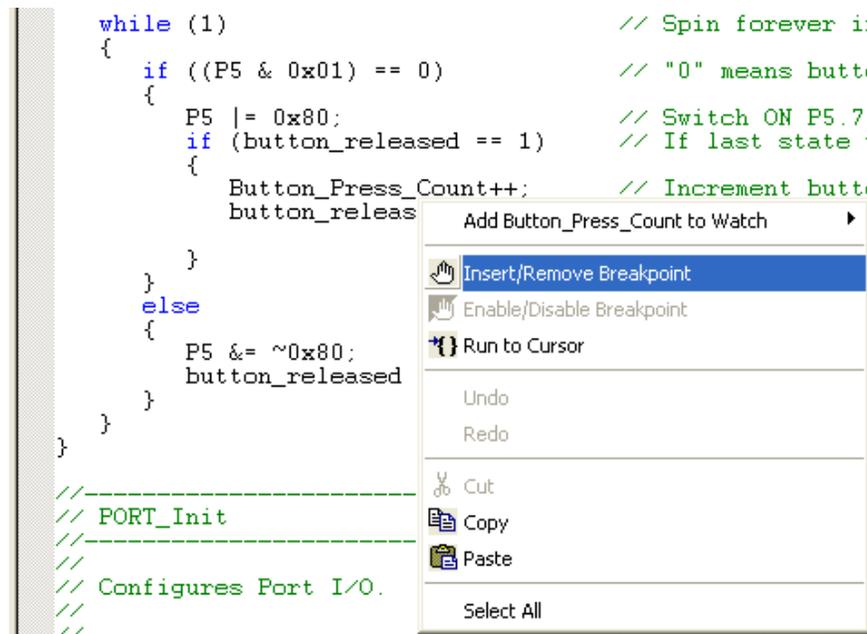
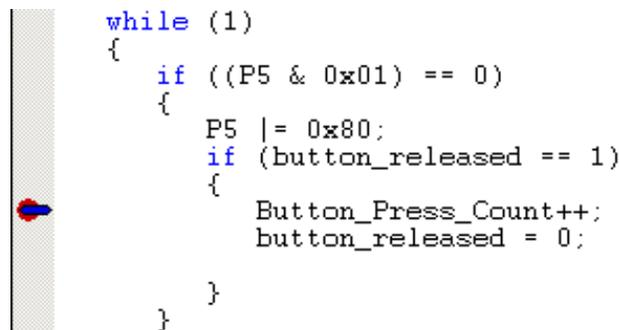

Figure 14. Inserting Breakpoint
Figure 15. Execution Stopped at Breakpoint
2. Scroll to the **main** function (line 69) and right-click on the **Button\_Press\_Count** variable. In the context menu shown in Figure 14, select **Insert/Remove Breakpoint**. On the left side of the line in the editor window shown in Figure 15, a red circle is added to indicate that a breakpoint has been placed on the source line.